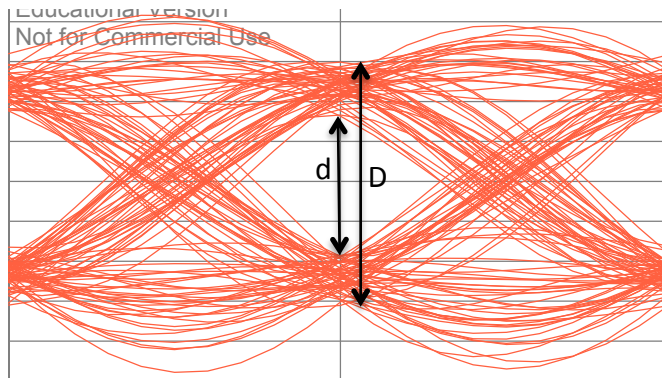

Figure 5.3. Eye Diagram with partial closure.
Now, change subplot (D) to show the I-Eye format. The eye diagram is the superposition of portions of the signal at the output of the matched filter of the in-phase component branch of the IQ demodulator with a duration of 2 symbol periods (it can be similarly defined for the output of the matched filter of the quadrature component branch of the IQ demodulator). A measure of the performance of a digital communication system is the relative aperture of the eye defined as $d/D\%$, where d and D are shown in Figure 5.3. Using a larger number of symbols, measure the relative aperture of the eye diagram for the in-phase component in the VSA and explain the procedure in your report.